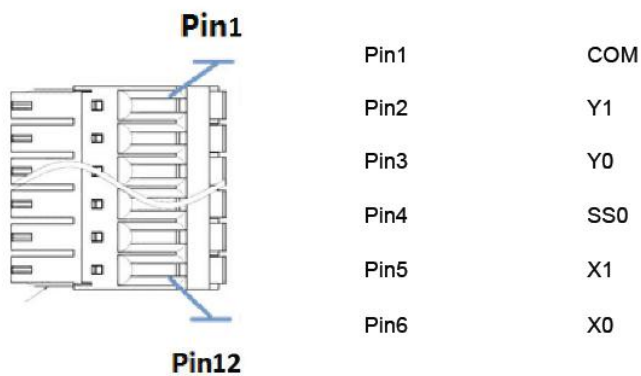

Fig. 2-4 DIDO interface description
The DI/DO interface of the FBox device (except FBox-mini) includes two digital inputs (DI) and two digital outputs (DO). The DI/DO interface can be used to connect external digital devices. The DI/DO interface is located on the 12-pin parallel ports under the right cover of the FBox device, as shown in Figure 2-4. The COM, Y1, Y0, SS0, X1 and X0 pins are digital I/O interfaces and used for DI/DO function.